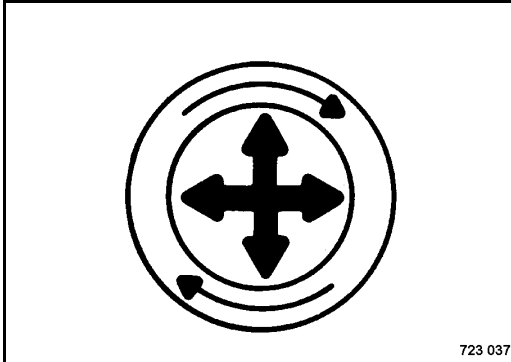

Fig. 141
- Carefully loosen the main filter element (Fig. 141).
The main filter element is located directly on the air intake tube, thereby providing a seal on the inside of the filter cover. Carefully remove the main filter element, in order to reduce the released amount of dust. To release the seal pull the main filter element carefully up, down and sideways or turn it (Fig. 141) .